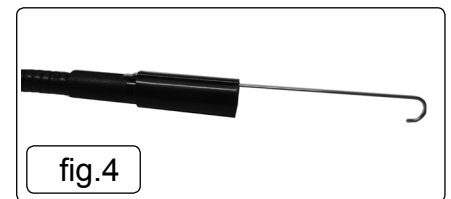

fig.4
- 4.3.2. Slide on outer sleeve (fig.4) to hold accessory in place.